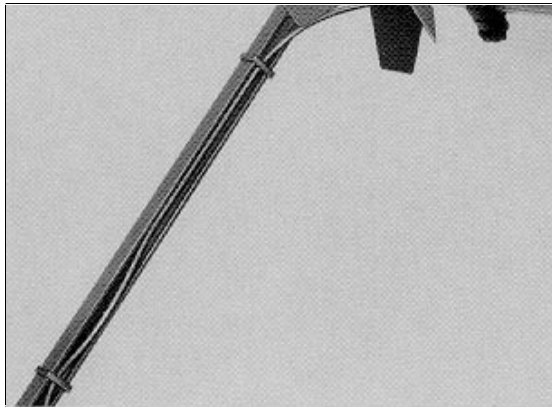

Figure 2-51. Dressing Cords
e. Run the electric cord down the side of the lamp arm and clamp it at the top and bottom of the arm, using the clips provided (figure 2-51).